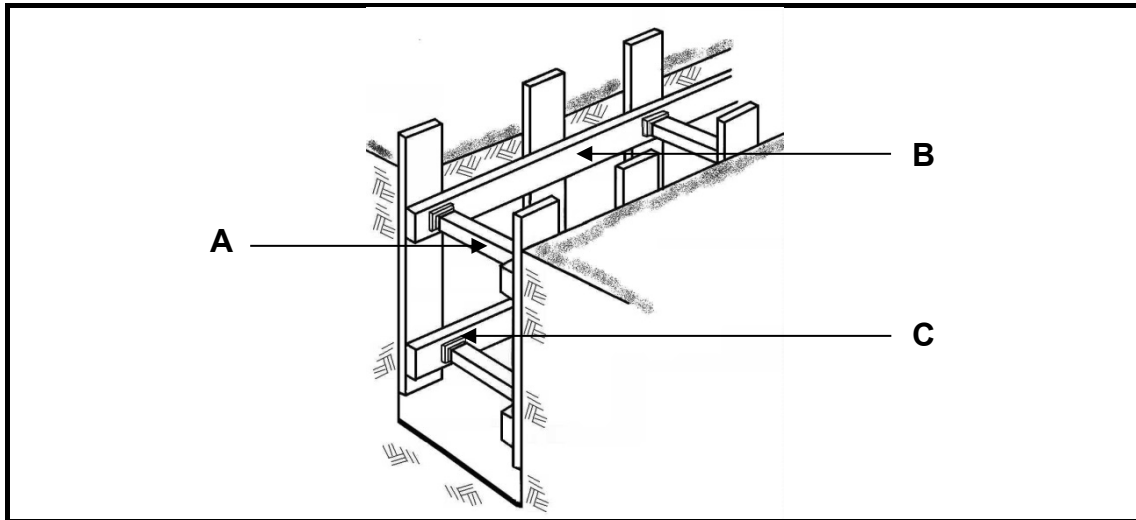

FIGURE 4.11
4.11 Answer the questions about the shuttering in FIGURE 4.11.
4.11.1 Identify the **type** of **soil** in FIGURE 4.11. (1)